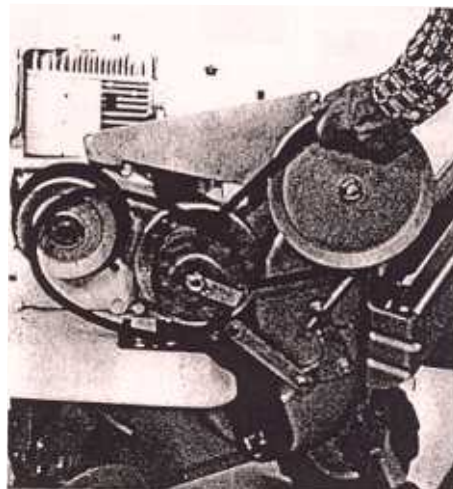

Figure 14
- 3 Roll the belt off the rear pulley as shown in figure 14.